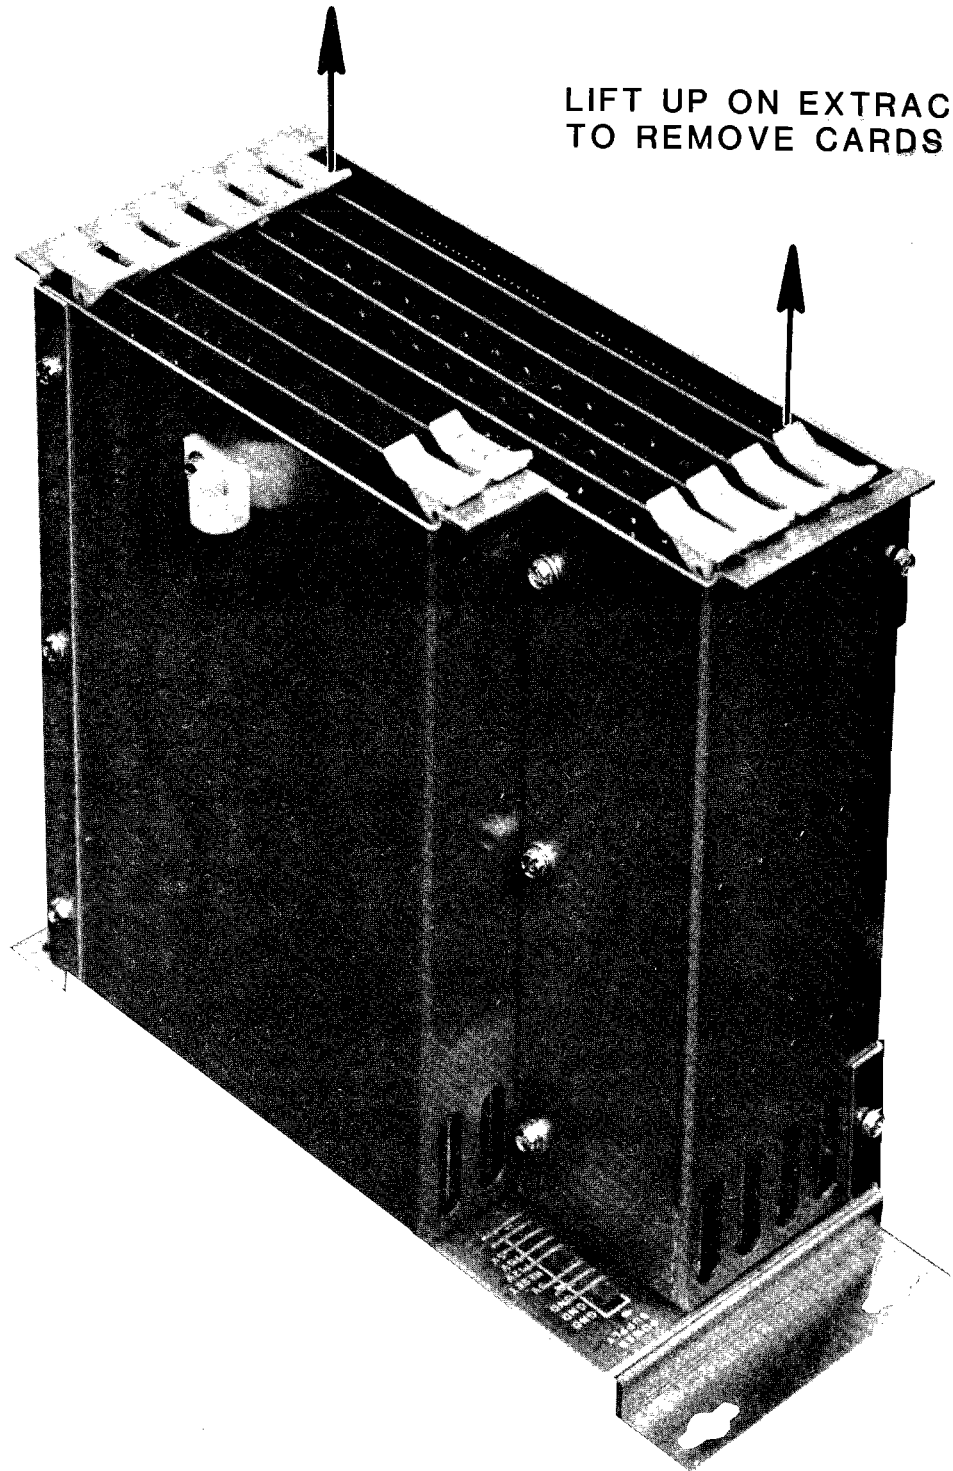

FIG.24
- i. Disconnect it from all its cabling. See Figure 24.
- ii. Remove the screws which secure the top P.C.B. support to its mounting bracket. (Be careful not to lose the washers.) See Figure 24.